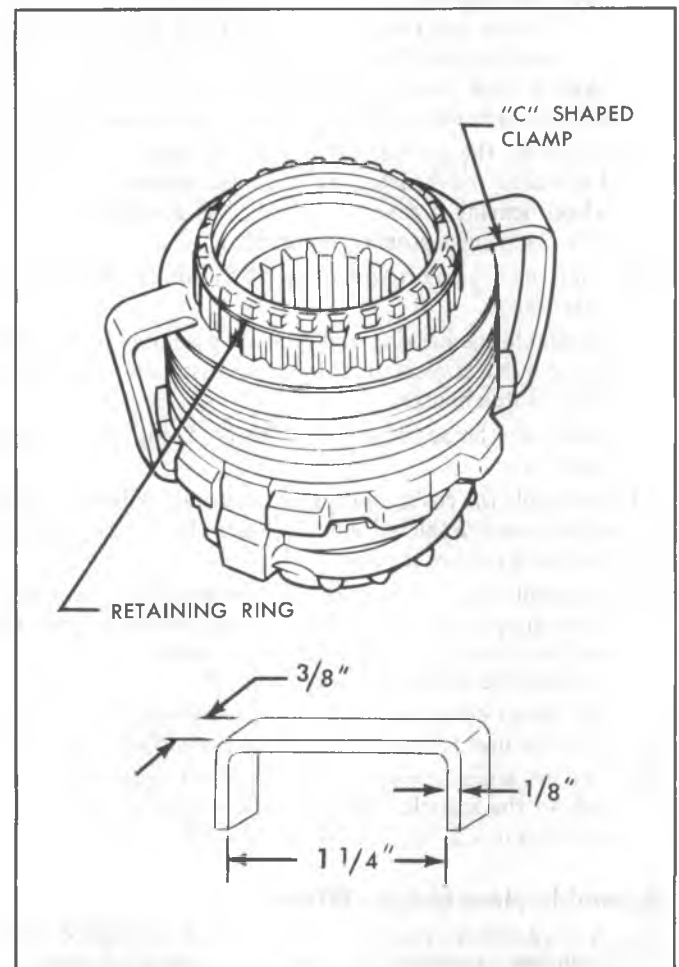

Fig. 3C-4K--Using Clamp and Vise to Compress Return Spring
7. Place the spring support washer (#13) against the retainer on the end of the return spring. Compress the return spring and assemble the retainer ring (#12) in the groove of the hub sleeve. Two "C" shaped clamps may be used to retain the return spring while the retainer ring is being assembled. Refer to Fig. 3C-3K.